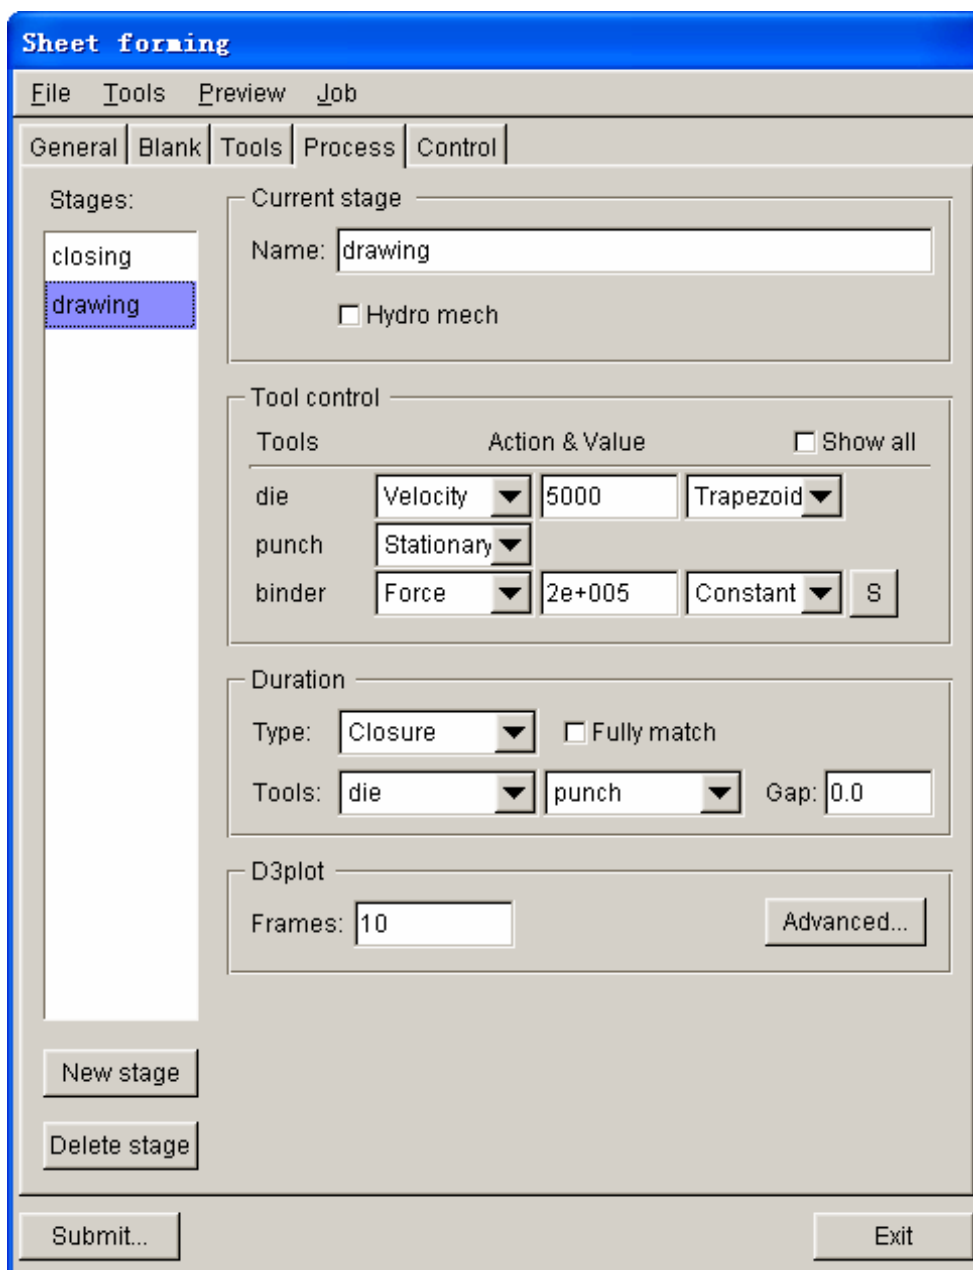

Figure 5.72 Drawing process interface
3. Select **drawing** process from the list located at left side of the interface as the current process. See Figure 5.72.
4. Verify the default setting of **drawing** stage is similar to Figure 5.72.
3. Verify the other settings are similar to those illustrated in Figure 5.72. Then, press **Apply** button to create the new process.